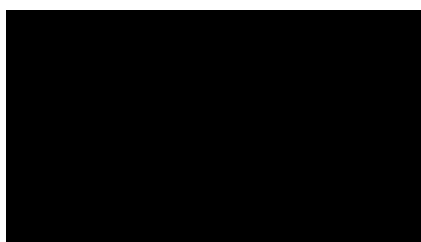
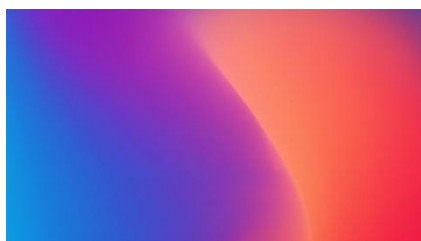

Fig.3.1
Fig.3.4
(1) Configuring background through the setting page, there are 8 options according to the different themes: when dark theme is shown in Fig.3.1~Fig.3.4, and light theme is shown in Fig.3.5~3.8. Only select the themes, it is default to display the pure colour background as shown as Fig.3.1 or Fig.3.5.
(2) Inserting new background through the USB storage device, specific steps are as follows:
**Note: ①Only support USB storage devices that the format should be FAT32 (if the format is not FAT32, it need to be formatted as FAT32);**
**②Only support USB storage devices with capacity not greater than 32GB.**